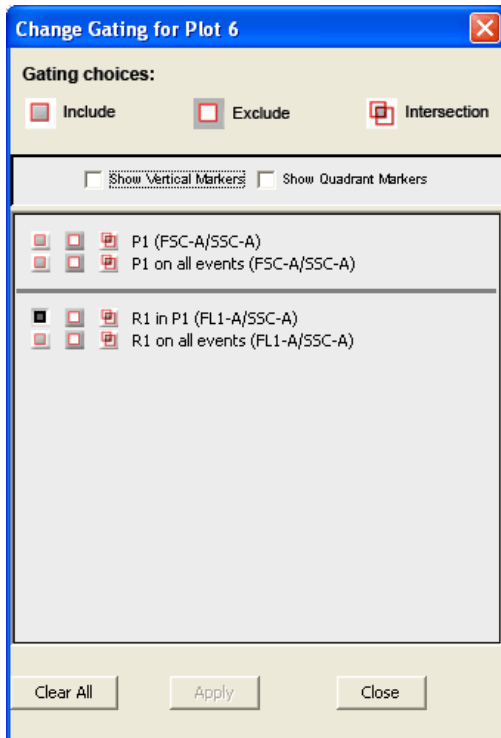

Figure 3-22. Applying the Child Gate
- In the Change Gating dialog box, select the option in which the second gate is “in” the parent gate (e.g., R1 in P1; see Figure 3-22). Alternatively, selecting the *on all events* option (e.g. R1 on all events) “un-nests” the gates.